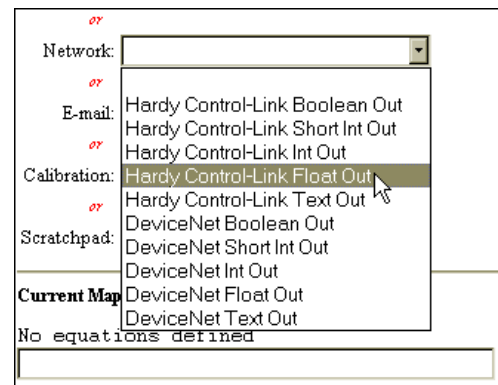

FIG. 263: MAPPING SETUP PAGE 1/SELECTING HARDY CONTROL-LINK FLOAT OUT
Step 4. Click on the Network Pull Down List. (See Fig. 263)